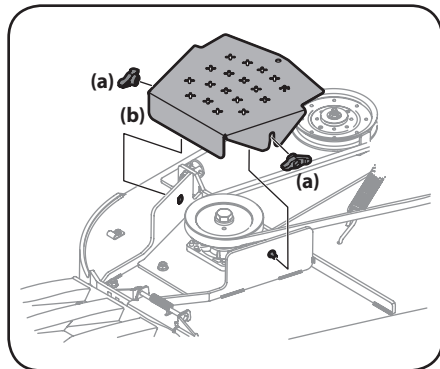

Figure 4-18
2. Remove the wing knobs securing the belt covers to the deck. See Figure 4-18.
6. Place the belt around the idler pulleys removed in step 3 with the "V" side facing in. Once in place, reinstall all the hardware and tighten the flange lock nut to secure the assembly. See Figure 4-18.
7. Route the belt as shown in Figure 4-18 and then reinstall the deck. Refer to "Deck Installation" on page 23.